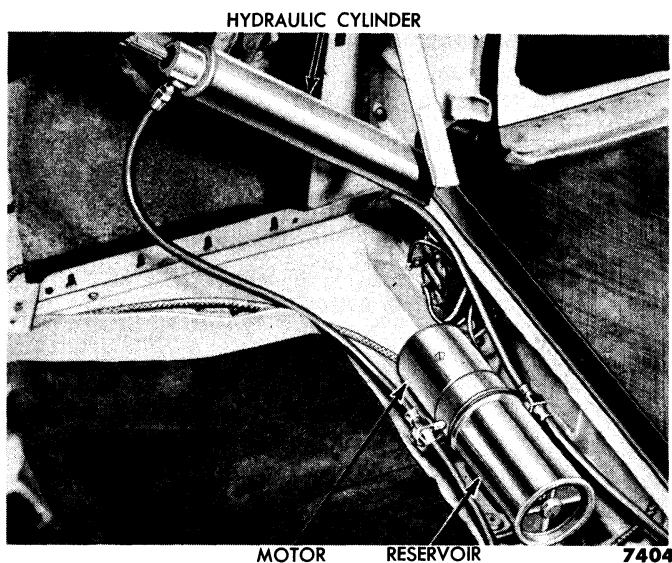

Fig. 15—Convertible Top Power Units
under the left side of the rear seat. The hydraulic cylinders are accessible after the rear seat back and quarter trim panels have been removed as shown in fig. 15.
(1) **FLUID LEVEL CHECK.** Remove the rear seat cushion, and loosen the filler plug in the end of the reservoir (fig. 15). Operate the top three times to bleed all the air from the system.